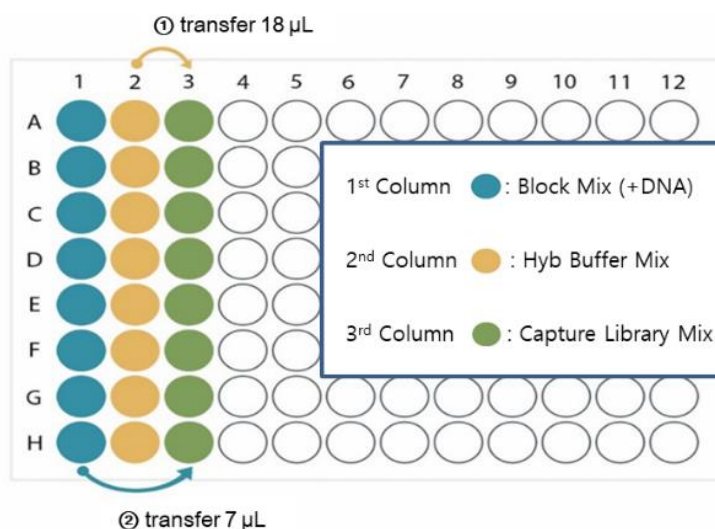

Figure 2. Mix all reagents in the 96-well PCR plate
- a. Take **10 µL of pre-capture pooled sample** to a **new 8-strip tube** (or 1st column of 96-well PCR plate, see figure 2).
*When using a 96-well PCR plate, transfer Hyb Buffer to an empty column (wells without Block Mix, see figure 2) and quickly seal the PCR plate.
* When using a 96-well PCR plate, transfer 7 μL Capture Library Mix to an empty column (wells without Block Mix and Hyb Buffer Mix, see figure 2) and completely seal the PCR plate quickly.
- 2) See **Figure 2** before proceeding. When using the 96-well PCR plate, transfer reagents into the well (or lane) containing **Capture Library Mix**.
- g. **Slowly pipette Hyb Buffer Mix up and down 2-3 times and transfer 18 μL** into **Capture Library Mix** PCR tube (or PCR plate) and mix well by pipetting up and down 2-3 times (Figure 2. ①).
- h. **Transfer 15.6 μL (entire amount) of Block Mix with DNA library** into **Capture Library Mix** PCR tube (or well) that contains reagents (Hyb Buffer and Capture Library Mix) and mix well by pipetting up and down 2-3 times (Figure 2. ②).